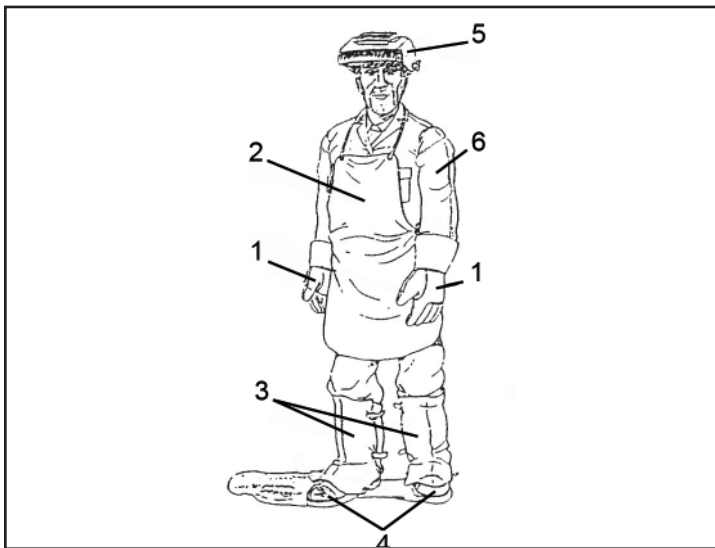

Figure 1
- Workers and their assistants must protect themselves by wearing closed, non-flammable protection coveralls, without pockets or rolled sleeves or legs. Any residue of oil or grease must be cleaned from the garments before wearing them. Only wear CE marked garments suitable for arc welding and cutting (Fig. 1):